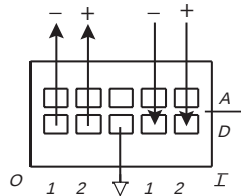

Figure 2-5
2. Connect the other end of this cable to the front panel RS-422 terminal block connector on the Mini-RGB-AD (see Figure 2-5).